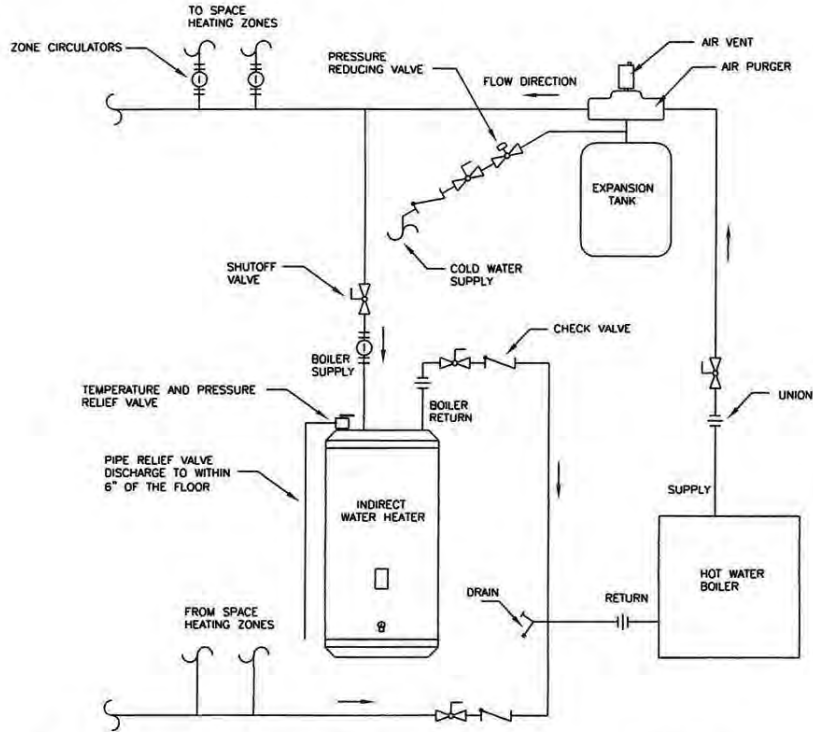

FIGURE 2 – BOILER WATER PIPING WITH ZONE CIRCULATORS
### **WATER BOILER PIPING (Refer to Figures 2, 3 on Pg. 11)**
1. Determine where the boiler, the space heating, and the water heater connections should be made based on the type of piping system that is either in place, or is to be installed for a new hydronic system installation. See Figure 2 (Boiler Water Piping with Zone Circulators) and Figure 3 (Boiler Water Piping with Zone Valves).
For space heating systems that use Zone Circulators, refer to Figure 2 on pg. 11. The water heater connection labeled “BOILER SUPPLY” should be piped to the boiler supply piping after the air purger and before the space heating takeoffs. Mount the water heater circulator as close to the water heater as possible, and make sure the flow arrow points toward the water heater. The use of shut-off valves is recommended for future service convenience.